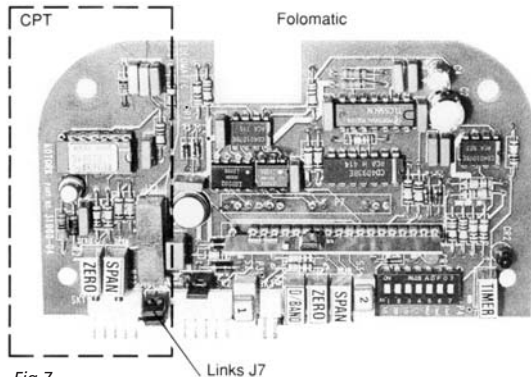

Fig.7
### 7.6 Current Position Transmitter (CPT) 4-20mA Output (fig. 7)
1. Signal Direction. Using Fig 7 locate the duel links J7.
## 7.7 Folomatic Proportional Control (Fig. 7)
Using Fig. 7 locate switches 1 and 2, on folomatic/CPT PCB. select as follows:
**2** Determine what control input signal is going to be used. Refer to Fig 7 and locate the folomatic P.C.B. diI switches. Using appendix table 1 set the required current or voltage range.